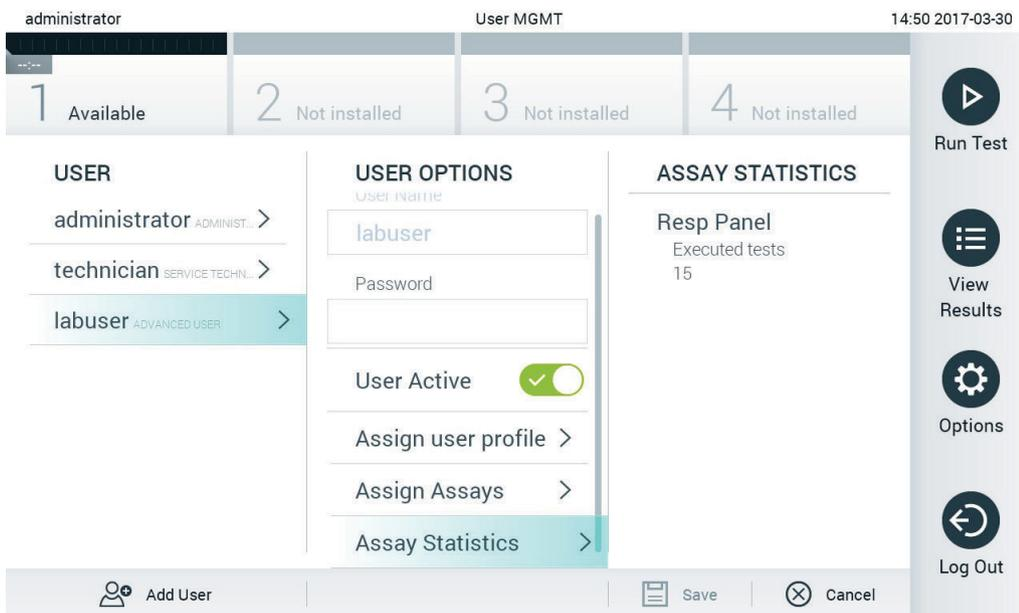

Figure 62. Viewing assay statistics.
- **Assay Statistics:** Shows the number of times an assay was run by the selected user (Figure 62).